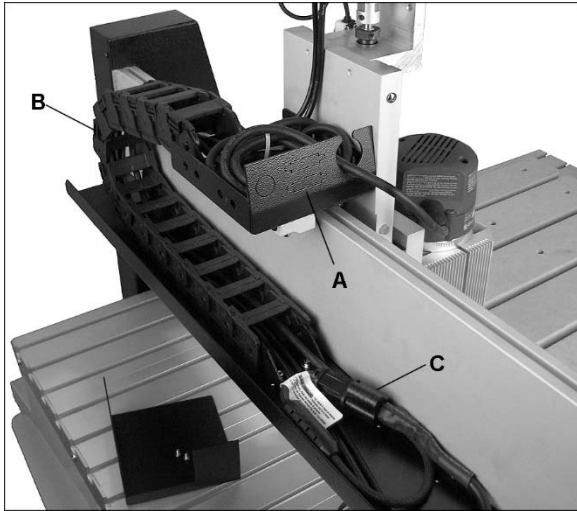

Figure 7-23 (PM-2X2R only)
Position power cable so it will not interfere with vertical or horizontal movement of head. See Figure 7-23. Optimal method is to feed plug through box (A) and drag chain (B), and connect to receptacle (C) in the tray. Keep excess length of cable inside box, as shown (cable ties not included.)